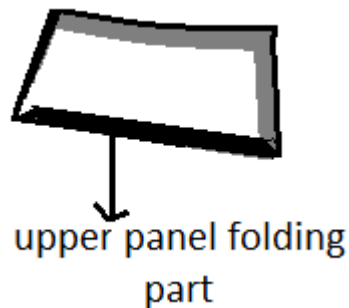

Fig. 5:4 upper panel fold
19. Stitch as shown in (*fig. 5:5 II.*)